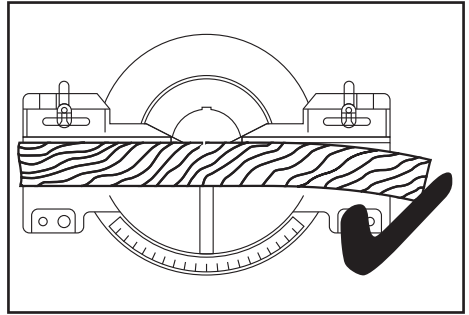

FIG.33
9.7 CUTTING CURVED OR WARPED MATERIAL – FIGS.33 – 34